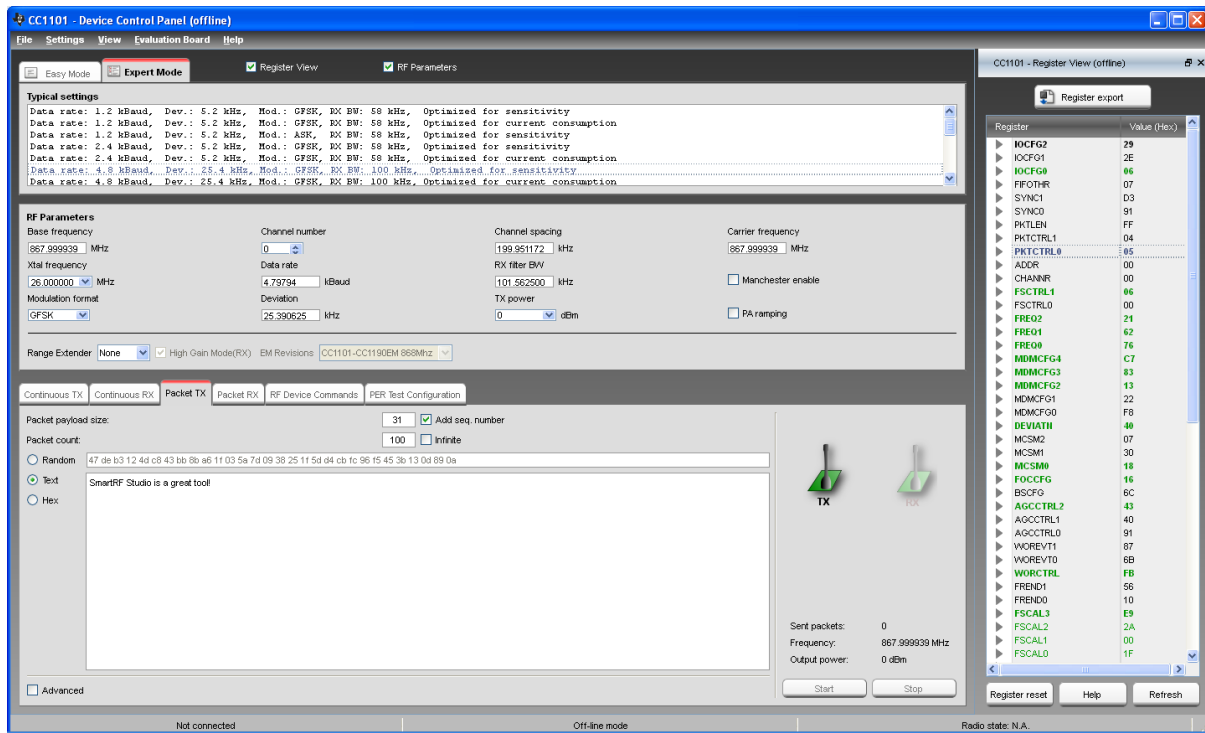

Figure 14: SmartRF™ Studio [5] User Interface
**CC1101** can be configured using the SmartRF™ Studio software [5]. The SmartRF Studio software is highly recommended for obtaining optimum register settings, and for evaluating performance and functionality. A screenshot of the SmartRF Studio user interface for **CC1101** is shown in Figure 14.